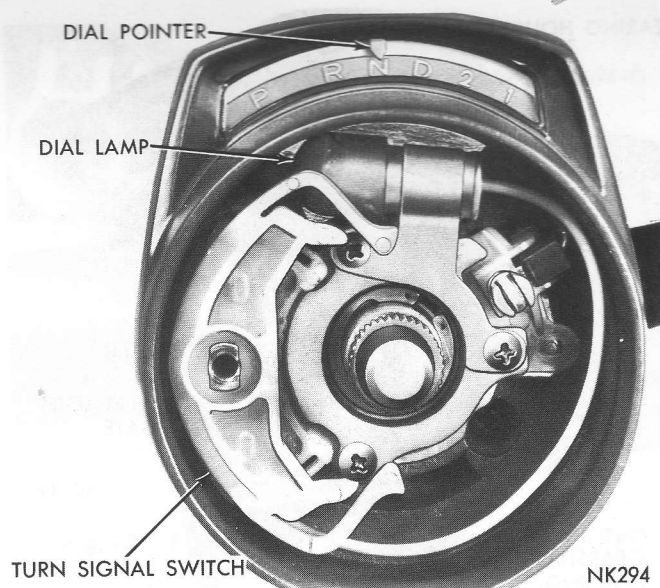

Fig. 18—Turn Signal Switch and Gearshift Indicator
(14) **AR-1, AR-2, AV-1, AV-2 Models:** Position the turn signal switch in the bearing housing, install switch retainer plate, dial lamp and secure with the three screws (Fig. 18). Guide the dial pointer over the dial, then snap the base of the pointer on the lug provided on the gearshift housing.